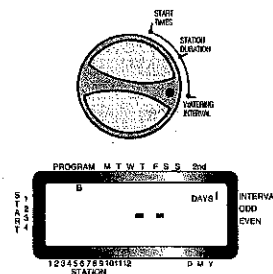

Figure 8: LCD Display with Watering Interval
- ◆ Turn the rotary dial to **Watering Interval**. The cursor will blink to the left of the word **Interval** [See Figure 8].